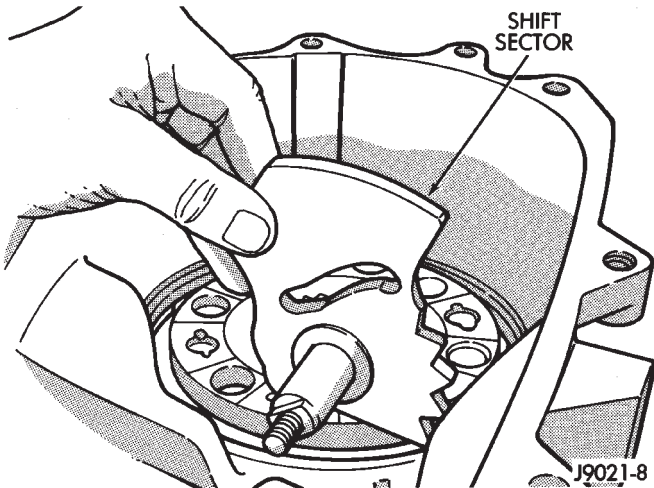

Fig. 48 Shift Sector Installation
(2) Install shift sector in the case (Fig. 48).